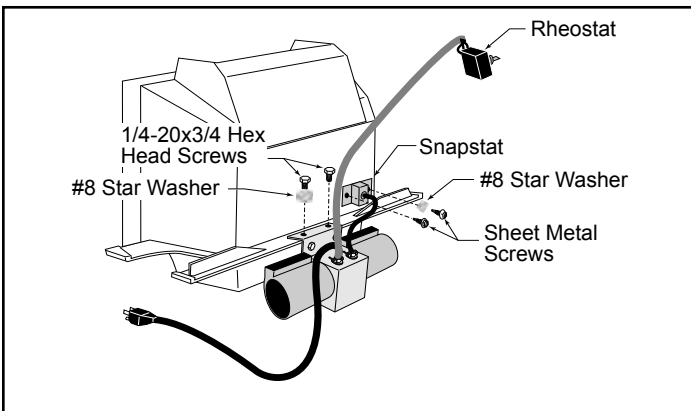

Figure 11 - Attach fan to RVF33.
5. Attach the snapstat. (Figure 11) Use the two (2) sheet metal screws and single #8 star washer to secure the snapstat to the back of the firebox.